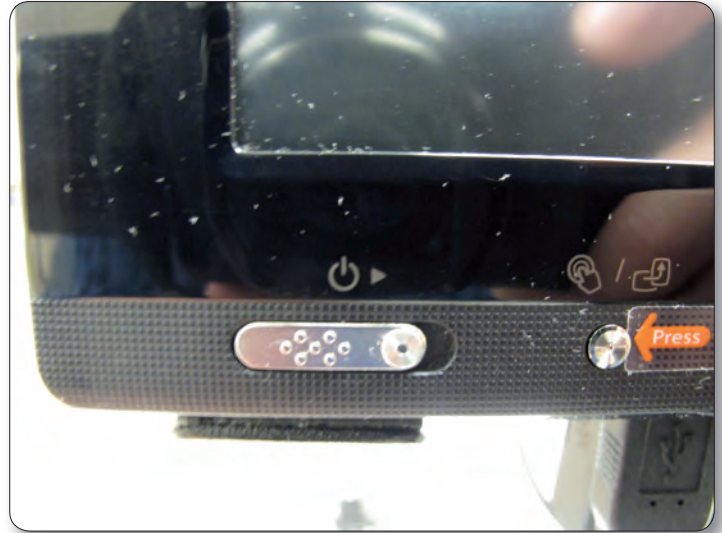

Figure 29
2. The tablet computer can be turned on by sliding the power switch at the bottom left-hand side of the screen to the right (Figure 29).